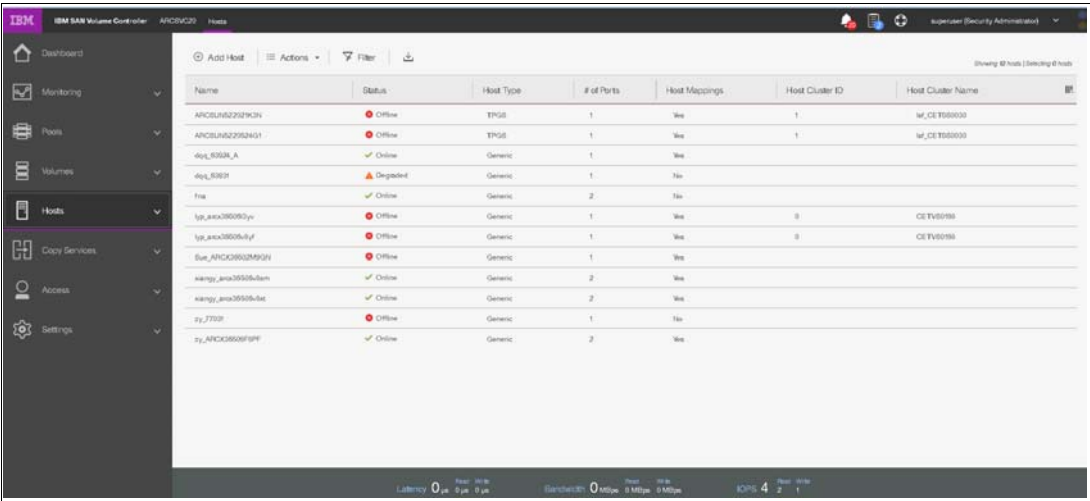

Figure 5-39 Add Host
2. To create a host, click **Add Host** to start the wizard (Figure 5-39).